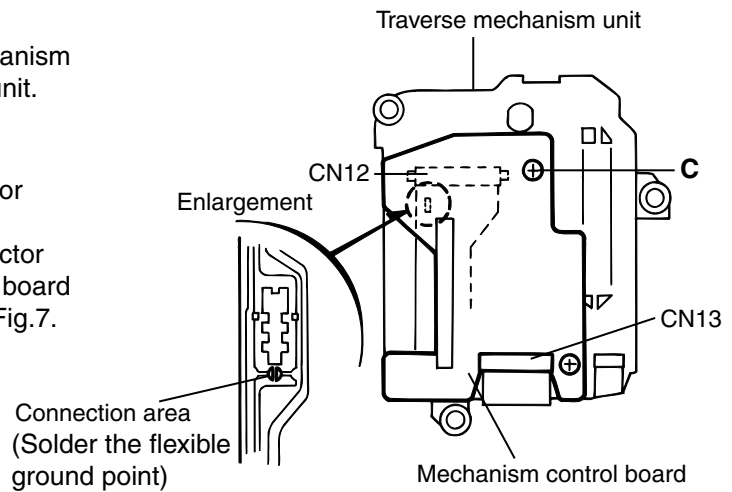

Fig.6
(See Fig.6~7)
- * Solder the flexible ground point on the optical pickup. (See Fig.6)